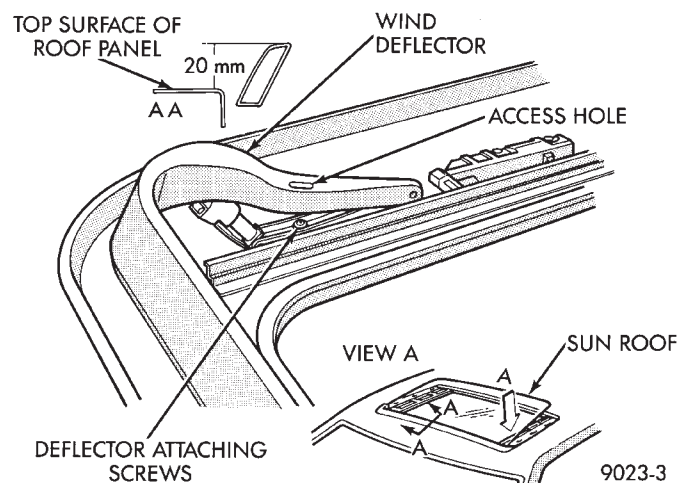

Fig. 2 Deflector Assembly
- (1) Open sun roof glass panel.
- (2) Remove screws holding wind deflector to sun roof unit side rail (Fig. 2).
- (3) Separate wind deflector from vehicle.
- (1) Open sunroof.
- (2) Position wind deflector so 19 mm (0.75in.) above top surface of roof panel and 1 mm (0.040 in.) rearward of roof panel forward edge (Fig. 2).
- (3) Secure wind deflector to sunroof unit.